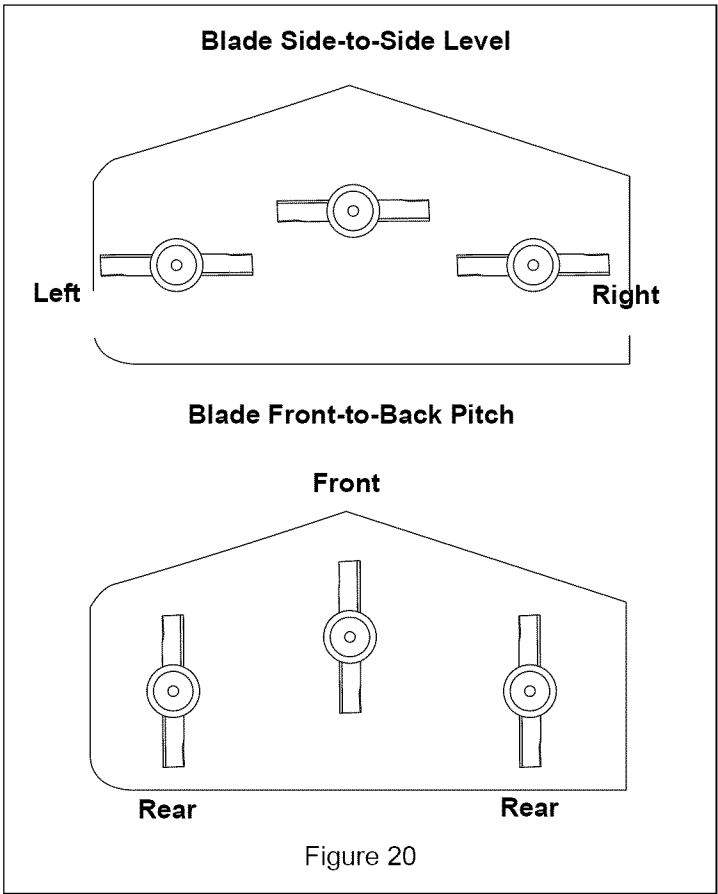
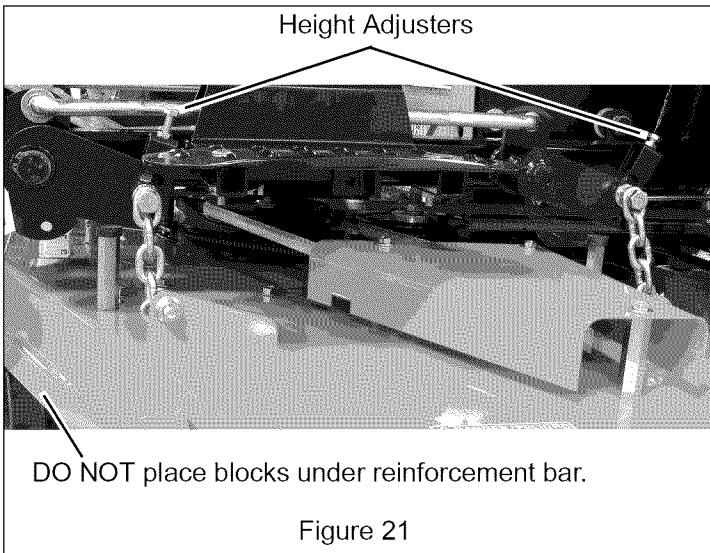

Figure 20
Figure 21
5. Measure the distance between the ground and cutting edge of the blade on the left blade (Left position in Figure 20) and on the right blade (Right position in Figure 20). Distances should be within 3/16 in. (4.7 mm). If they are not, raise the low side of the deck using the height adjusters on the deck lift brackets (see Figure 21).
7. Turn the blades so the blade ends point front to back as shown in Figure 20.
8. Measure the distance between the ground and the cutting edge of the middle blade at the front of the deck (Front position in Figure 20) and between the ground the cutting edge of the left and right blades at the rear of the deck (Rear position in Figure 20).
9. The cutting edge at the front of the deck (Front position in Figure 20) should be 1/8 in. (3.18 mm) lower than the cutting edges at the rear of the deck (Rear position in Figure 20).
10. If measurements are out of range, raise the low side of the deck using the height adjusters on the deck lift brackets (see Figure 21). Be sure to raise the deck evenly to keep the deck level side to side.
Level and pitch the mower with the height adjusters on each deck lift bracket (Figure 21).